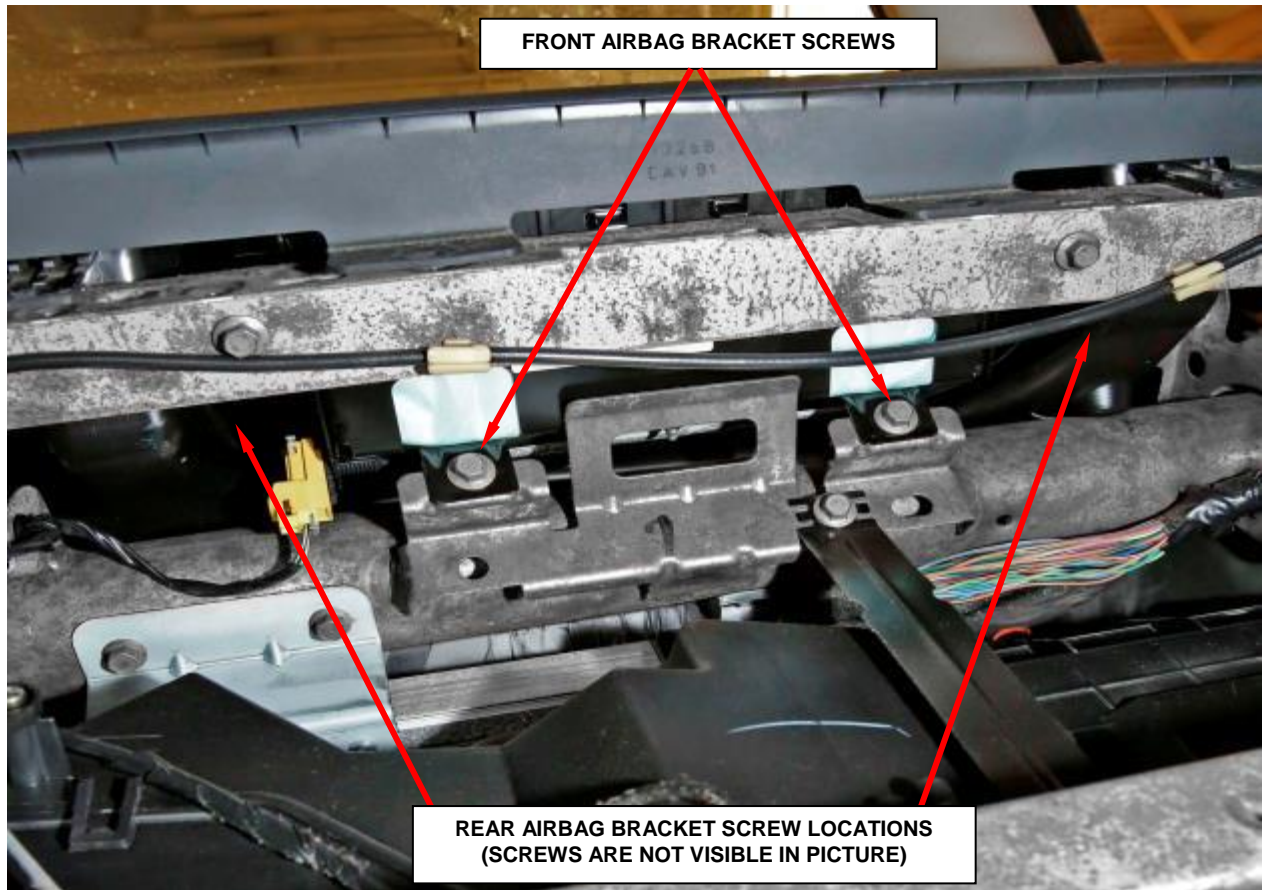

Figure 15 – Passenger Airbag Bracket Screws
13. Reach through and above the glove box opening to access and remove the two screws that secure the passenger airbag rear brackets to the upper glove box opening reinforcement (Figure 15).
14. Reach through and above the glove box opening to access and remove the two screws that secure the passenger airbag front brackets to the instrument panel structural support (Figure 15).
24. Reach through and above the glove box opening to install and tighten the two screws that secure the passenger airbag front brackets to the instrument panel structural support. Tighten the screws to 55 in. lbs. (6 N·m) (Figure 15).
25. Reach through and above the glove box opening to install and tighten the two screws that secure the passenger airbag rear brackets to the upper glove box opening reinforcement. Tighten the screws to 55 in. lbs. (6 N·m) (Figure 15).